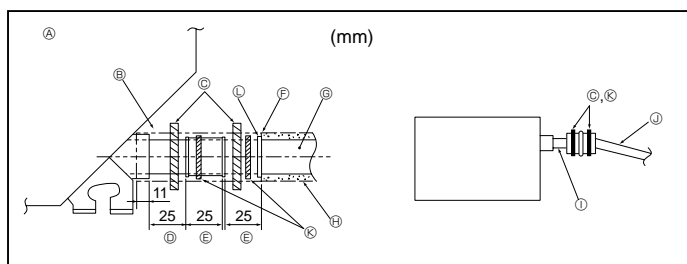

Fig. 3-5
1. Connect the drain socket (supplied with the unit) to the drain port. (Fig. 3-5)